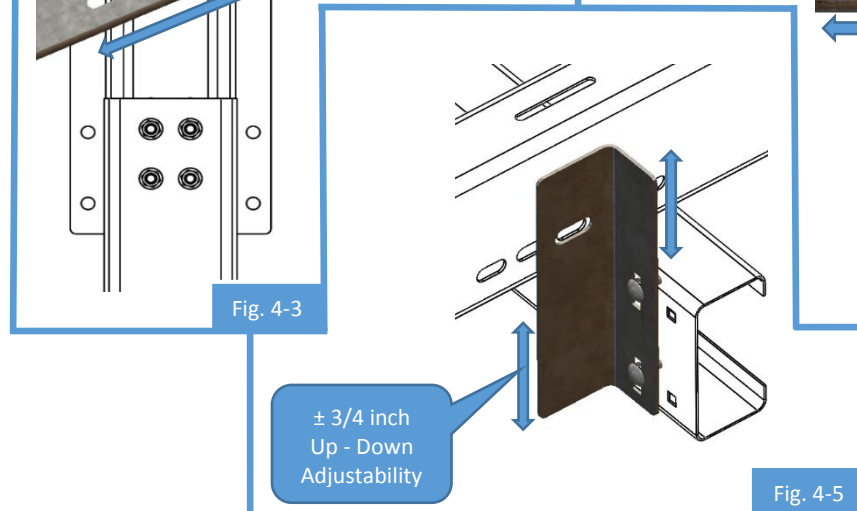

Fig. 4-5
- East – West Bracket: ± 0.75 inches (19 mm) (Fig. 4-5)